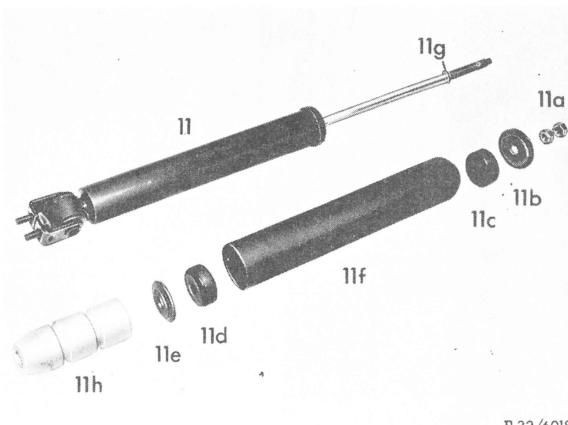

Fig. 6
Upper Shock Absorber Suspension (Figs. 6, 7, 8)
a) Bilstein shock absorbers: remove protective tube (11f), remove lower rubber ring (11d), lower disc (11e) and additional rubber spring (buffer stop) (11h) (Fig. 6).
6 Slide suspension components on to piston rod (for Bilstein shock absorbers: 11h, 11e, 11d and 11f (Fig. 6) for F & S shock absorbers 11d (Fig. 7).
Attention! In the case of Bilstein shock absorbers on no account interchange the lower disc (11e) and the upper disc (11b), otherwise the disc can push itself over the locking ring (11g) during operation (Fig. 6).